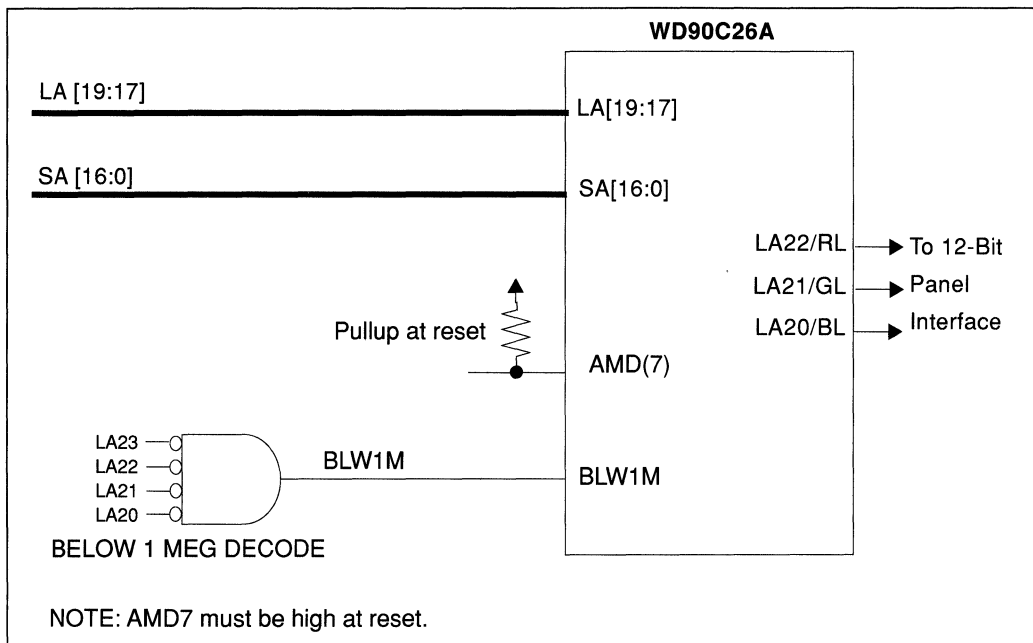

FIGURE 6-28 USING BLW1M WHEN CONNECTING A 12-BIT RGB PANEL INTERFACE
- Using BLW1M when Connecting a 12-Bit RGB Panel Interface (Figure 6-28)